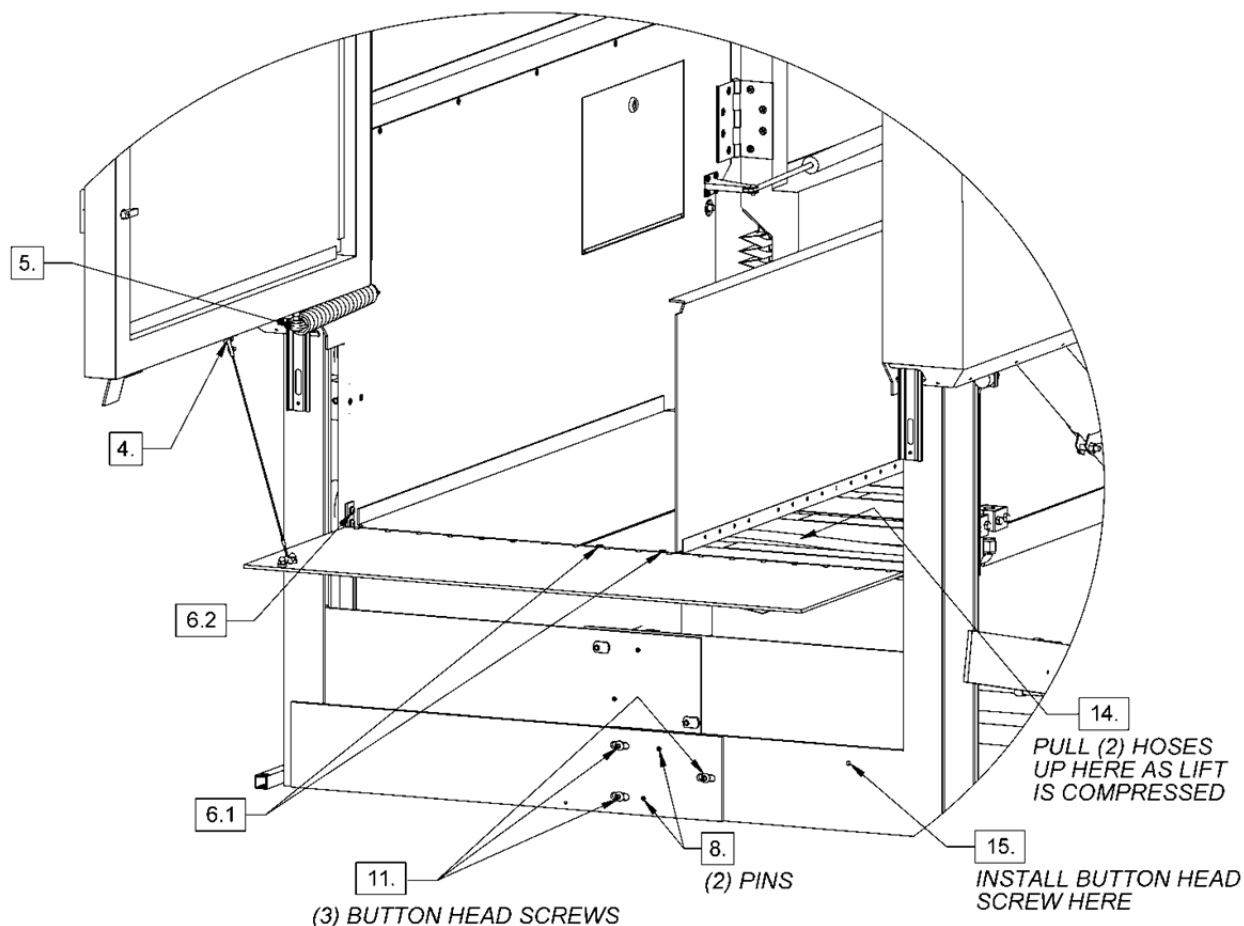
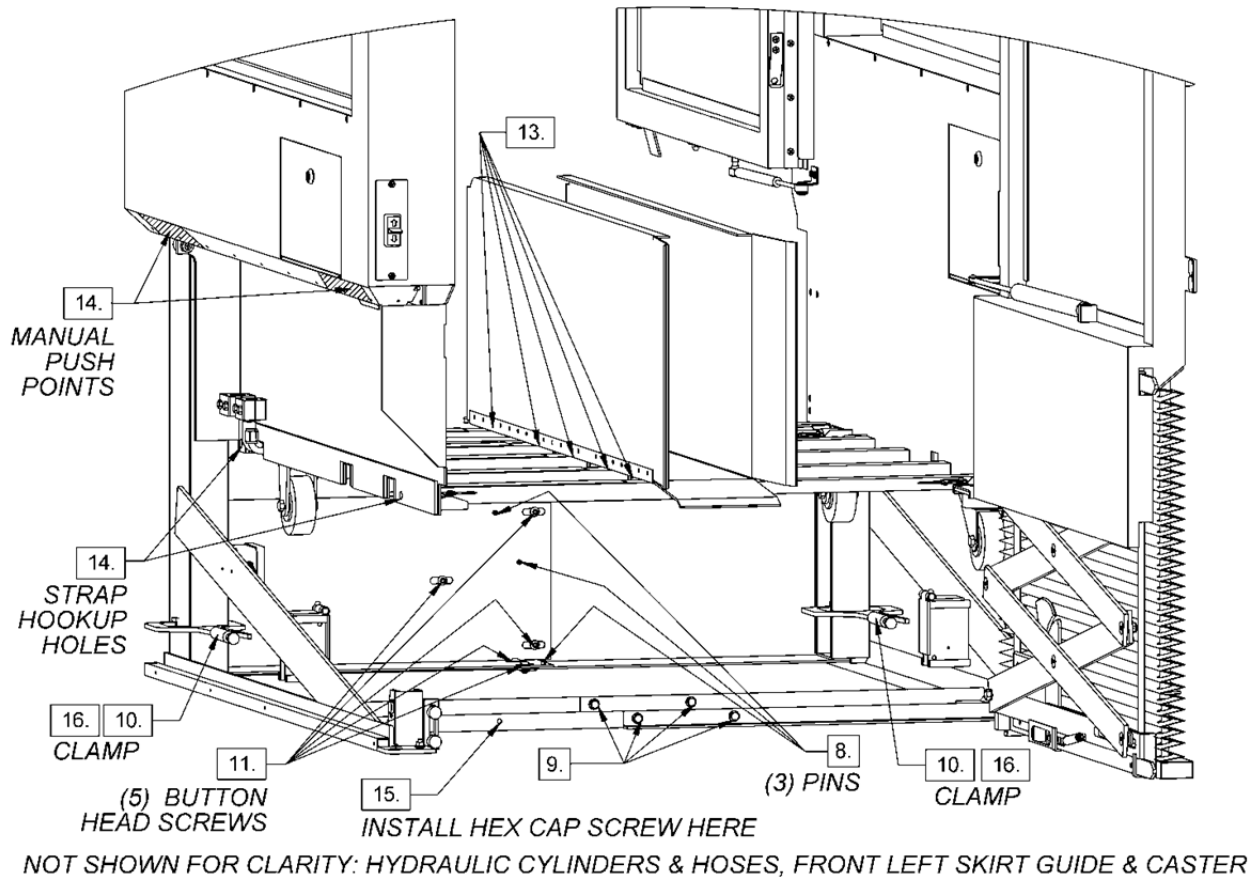

Figure 5.1 (Upper Landing Gate View)
Figure 5.2 (Lower Landing Gate View)
- 4.** (Refer to Figure 5.1, next page) Open the upper landing gate and disconnect the dock plate tether from the gate by removing the two (2) Phillips #10 x 3/4" flat head screws that secure the footman's loop to the gate.
- 5.** (Refer to Figure 5.1) Disconnect the closer spring from the upper landing gate. To do so, use a standard screwdriver or needle-nose pliers to remove the e-clip from the post on the gate, and then slip the spring off the post. For convenience, leave the hydraulic damper (located inside the spring) attached to the gate.
6. (Refer to Figure 5.1) Disconnect the dock plate from the lift by removing the following fasteners:
8. (Refer to Figures 5.1 & 5.2) Use the hand pump to move the lift car upwards until the car floor is approximately 36" [915 mm] off the ground. Then use a 3/16" or 1/4" punch to remove the five (5) spring pins from the back cross members. After removing the spring pins, use the hand pump to move the lift car downwards until the lift car floor is approximately 15" [380 mm] off the ground again.
9. (Refer to Figure 5.2, next page) Use two (2) 7/16" combo wrenches or sockets to remove the four (4) 1/4-20 x 1 hex cap screws, four (4) 1/4-20 nuts, and eight (8) washers from the front base members.
10. (Refer to Figure 5.2) Install two (2) welding clamps or C-clamps in the location shown. These clamps should hold the vertical rails together securely.
11. (Refer to Figures 5.1 & 5.2) Use a 3/16" hex key to remove the eight (8) button head screws from the back base cross members.
12. Install the four (4) casters into the lift car brackets. Use the lock pins to secure the casters on the left side of the lift car. Use two (2) spring pins (removed in Step 8 above), or two (2) 1" to 1.5" long flat head screws, to secure the casters on the right side of the lift car. If using the spring pins, insert the pins into the caster bracket holes until they are just past flush with the top surface of the caster brackets.
13. (Refer to Figure 5.2) Use a 9/16" combo wrench or socket to loosen the ten (10) 3/8-16 x 3/4" hex cap screws that hold the floor members together. These screws are located underneath the car floor. They do not need to be completely
As the sides of the lift car are pushed together in Step 14 below, pull the flexible hoses at the back of the lift car up into the empty space on the left side of the lift car. See Figure 5.1. Failure to do so could result in damage to the hydraulic hoses.
14. (Refer to Figure 5.2) Open the upper landing gate, and then push the sides of the lift car together until the lift is narrowed to the required width. The lift can be pushed together manually, by gripping at the locations shown. Or, if necessary, the straps provided with the Ascension Toolkit can be used, installed in the holes at the locations shown and routed underneath the lift car. See Figure 5.6 on page 53 for instructions on operating the strap buckle.
15. (Refer to Figures 5.1 & 5.2) Install one (1) 5/16-18 x 5/8" button head cap screw (removed in Step 11) into the back base cross members and one (1) 1/4-20 x 1" hex cap screw with 1/4-20 nut (removed in Step 9) into the front base cross members in the locations shown.
16. (Refer to Figure 5.2) Remove the clamps from the back of the lift.